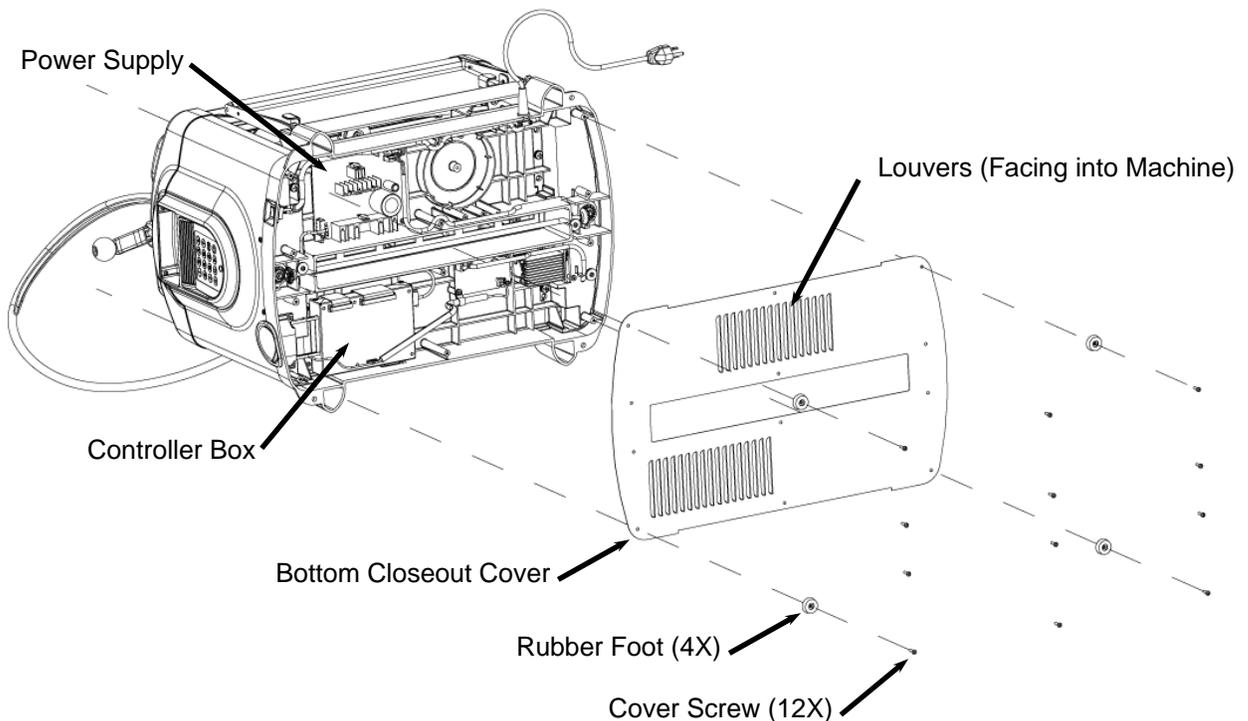

FIGURE 8: REMOVAL OF THE BOTTOM COVER
5. **Replace the bottom cover.** Replace the metal cover with the louvers pointing into the machine (see Figure 8). Insert and tighten the 12 screws. The four rubber feet are placed at the corners of the machine.